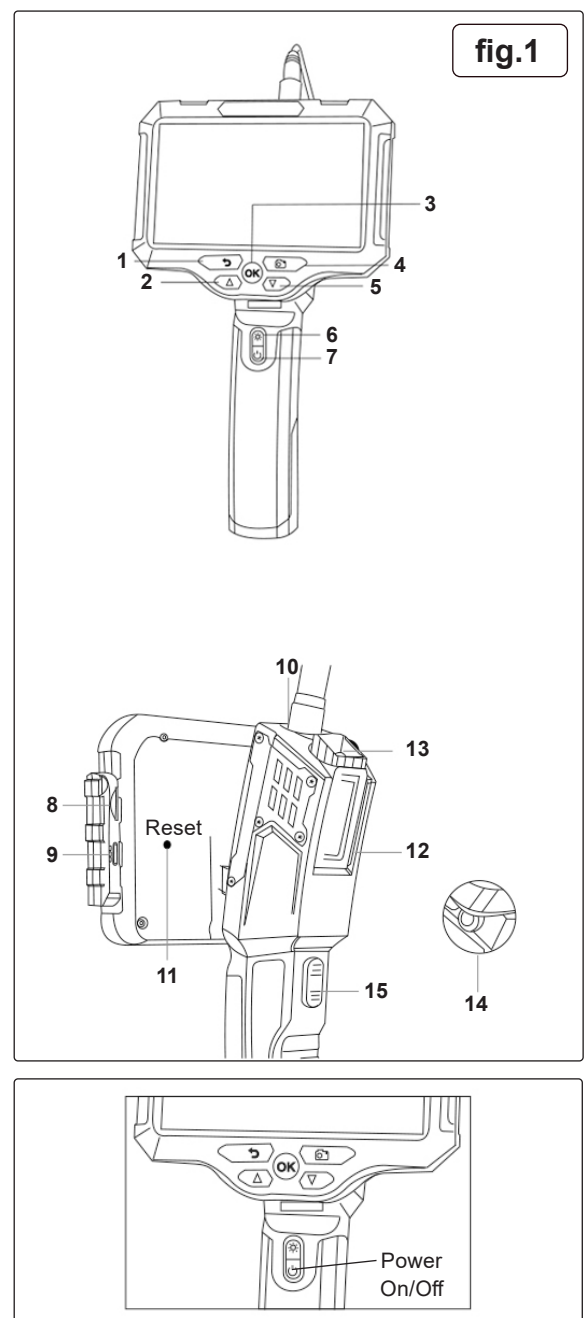

fig.2
- 5.2.1. Press power button for 3 seconds to power On/Off. Fig.2